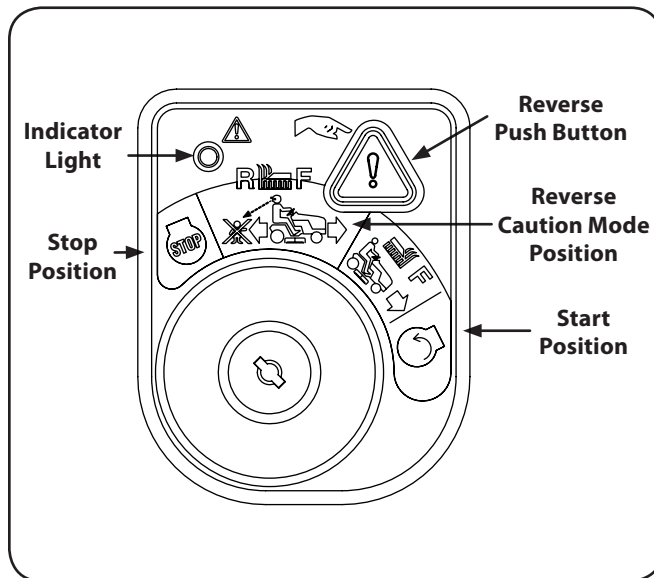

Figure 5-3
2. Turn the key from the NORMAL MOWING  (Green) position to the REVERSE CAUTION MODE  (Yellow) position of the key switch module. See Figure 5-3.
3. Press the REVERSE PUSH BUTTON  (Orange, Triangular Button) at the top, right corner of the key switch module. The red indicator light at the top, left corner of the key switch module will be ON while activated. See Figure 5-3.